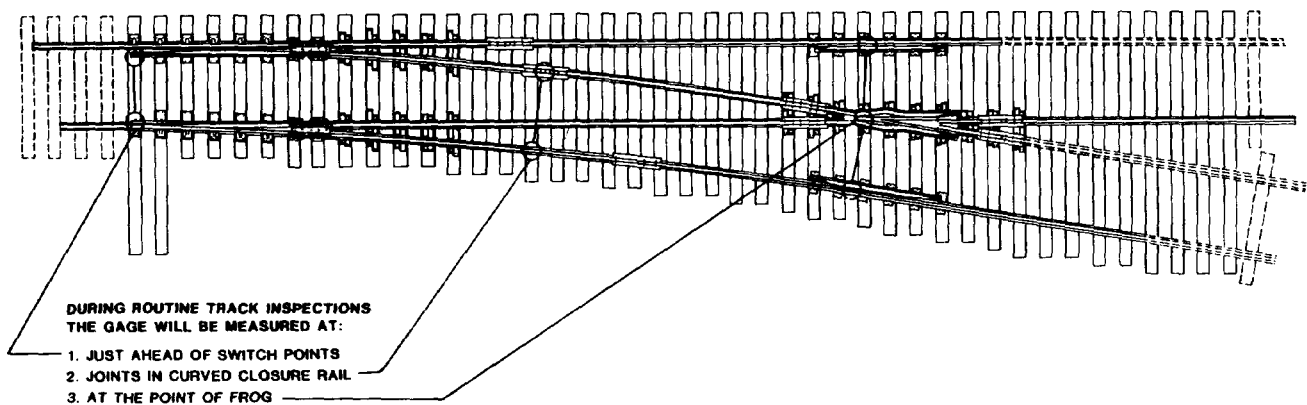

Figure 12-2. Required gage measurement locations within turnouts.
(1) In turnouts, just ahead of switch points. (See fig 12-2)
(3) At the point of frog on both sides of turnouts and rail crossings. (See fig 12-2)
(4) Wherever there is a dark streak running along the field side of the top surface of the rail head.
(5) Wherever wear marks on a tie indicate lateral tie plate movement.
(6) At locations where ties are badly skewed.
(7) In road crossings.
(8) In extremely sharp curves (12 degrees or greater) gage shall be measured in at least three well-spaced locations within the curve.